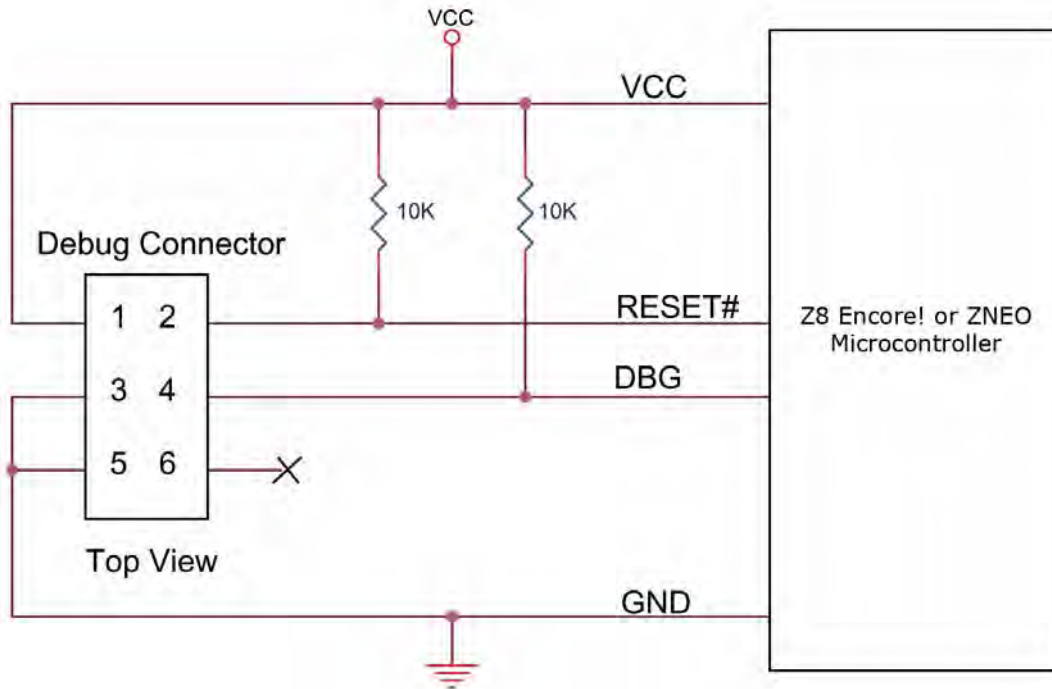

Figure 1. Target OCD Connector Interface
Figure 1 displays the connections between the debug connector and the Z8 Encore! or ZNEO microcontroller.
► **Note:** In Figure 1, the connector pin arrangement is shown as it appears from the top of the connector.